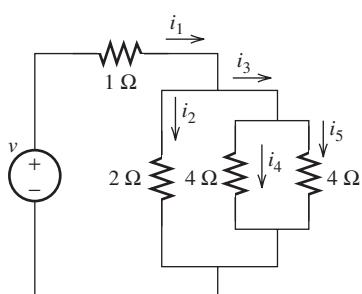

FIGURE P3.19 Circuit for Problem 3.19.
- 3.19 (A)*** Find i_1 , i_2 , i_3 , and i_4 in Figure P3.19 supposing $i_5 = 2$ A.
- 3.20 (H)** Find i_2 , i_3 , i_4 , and i_5 in Figure P3.19 assuming $i_1(t) = 4 \cos t$ A.